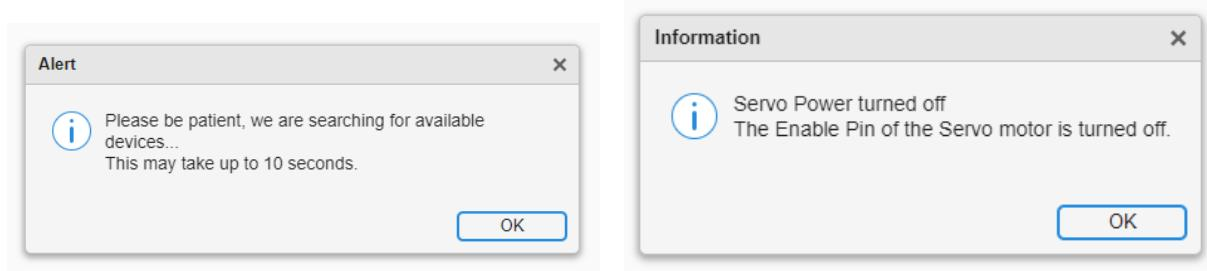

Figure 5.35: The *Emergency stop* disabled the entire GUI and prompts you to shut off and restart the entire system.
1. Hitting the *Emergency Stop* button in the GUI - this turns off the motor power supply and disconnects the device from your MATLAB GUI. You will need to close the GUI before you can use it again (Figure 5.35).